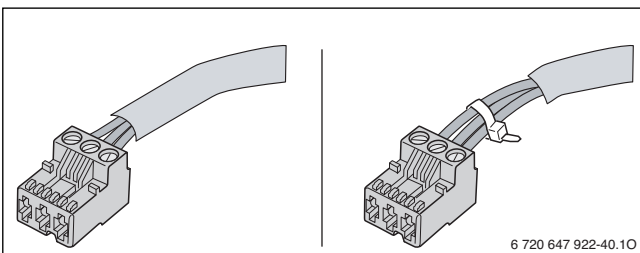

Fig. 9 Secure together the wires of every cable connected.
► Secure together the wires of every cable connected. This can be done by stripping a short section of cable sheath or with cable ties close to the terminals (→ fig. 9).